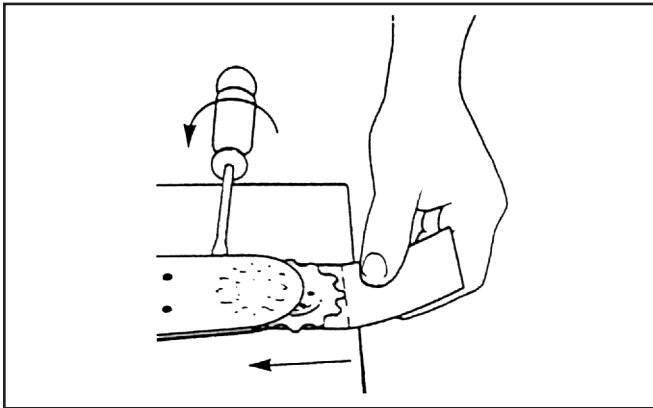

Figure 28. Installing a New Nose Sprocket
4. With a flat blade screw driver in the bar nose rails, slide the nose sprocket assembly into position aligning the 6 holes in the bar nose with the 6 holes in the nose sprocket assembly without removing the components from the card. See Figure 28.